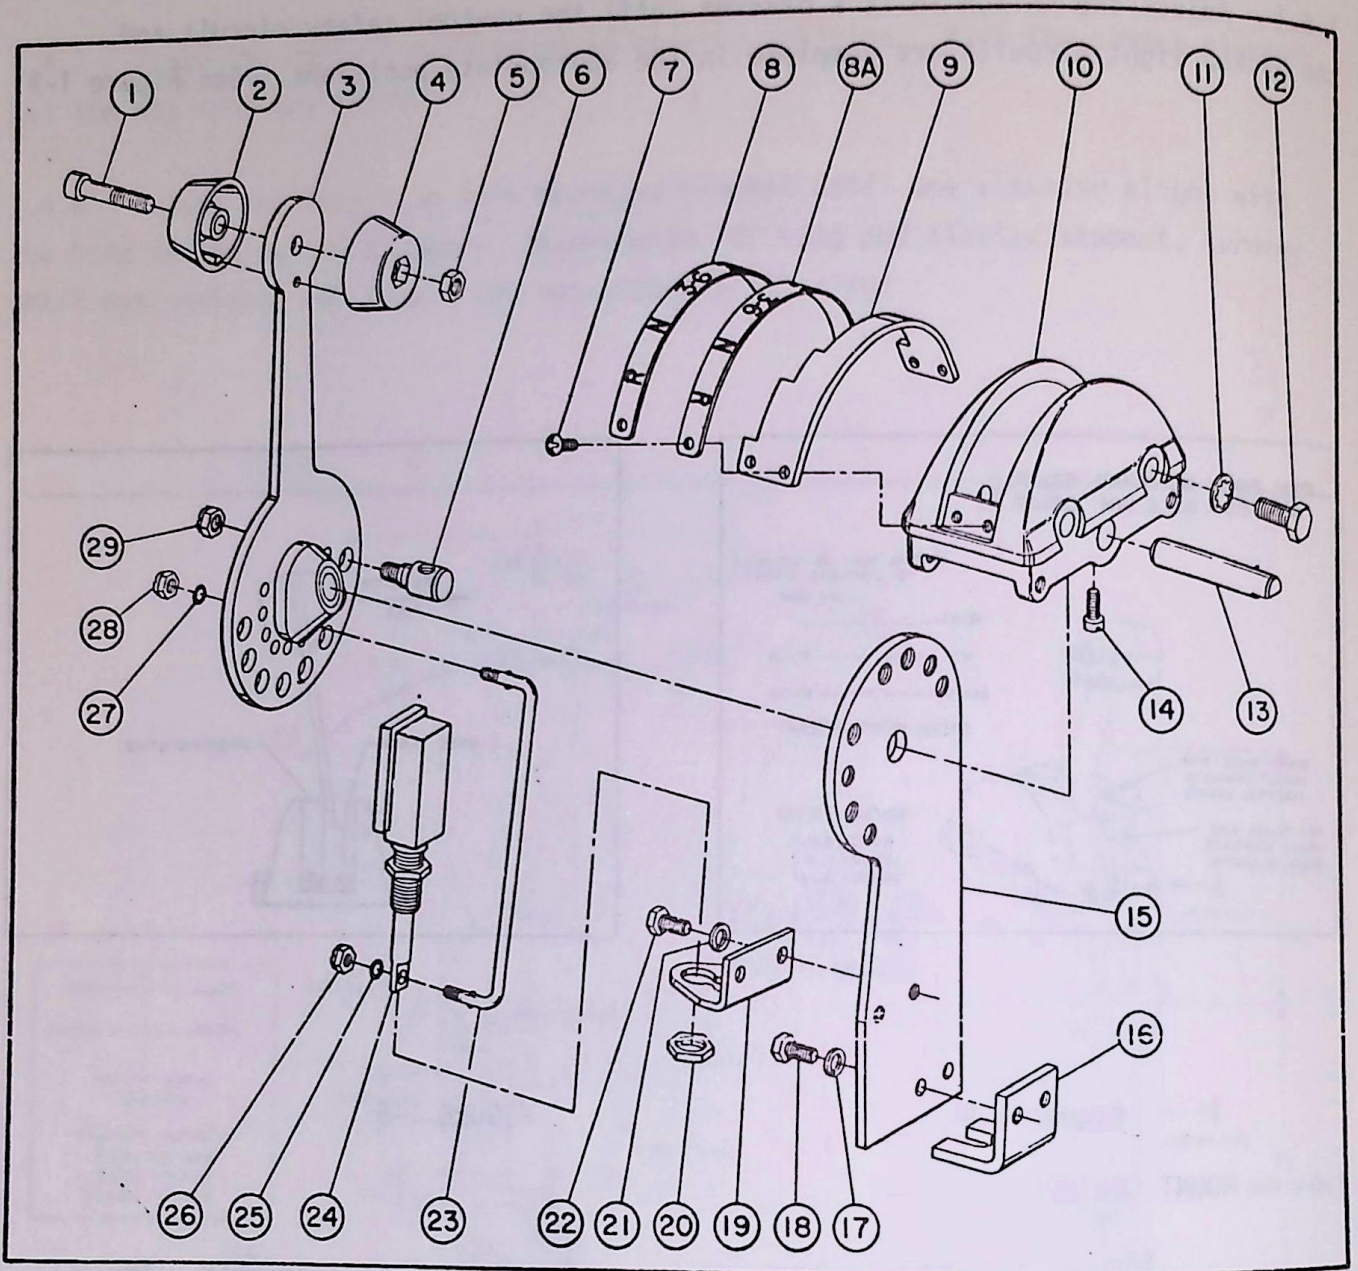

FIGURE 1-7
1.6.3 Make sure the position strip figures coincide with the same positions of the transmission detents. See Figure 1-7.